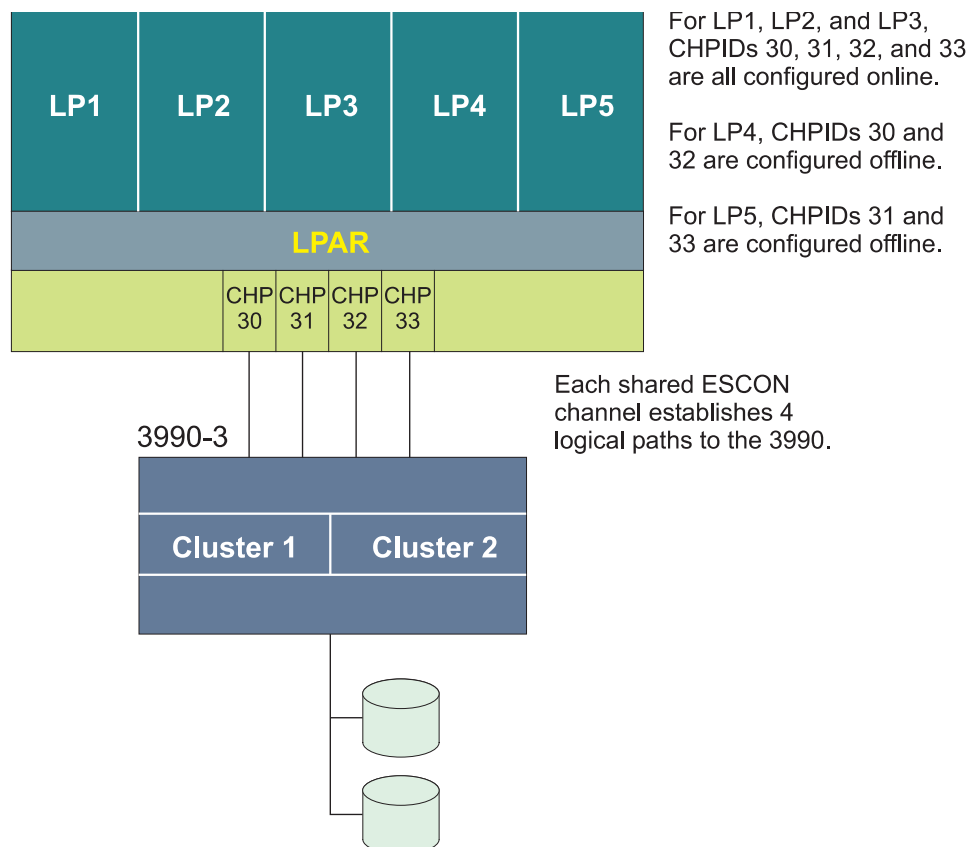

Figure 8. Configuring offline unneeded channels or shared channels on an LP basis
**Configuring offline unneeded channels or shared channels on an LP basis:** You can configure offline unneeded channels or shared channels on an LP basis to manage how logical paths are established. In Figure 8 on page 43, all five LPs need to be active concurrently. If all five LPs had each of the four shared ESCON channels configured online, 20 logical paths (four logical paths for each of the five LPs) would be requested, exceeding the logical path capacity of the 3990.
Use IOCP or HCD to define the access lists and candidate lists for channel paths to determine the configurability of a channel to an LP. This capability exists for both unshared and shared channels and can help automate and establish the configuration in Figure 8. Additionally, HCD allows you to dynamically change the access list and candidate list for a channel path.